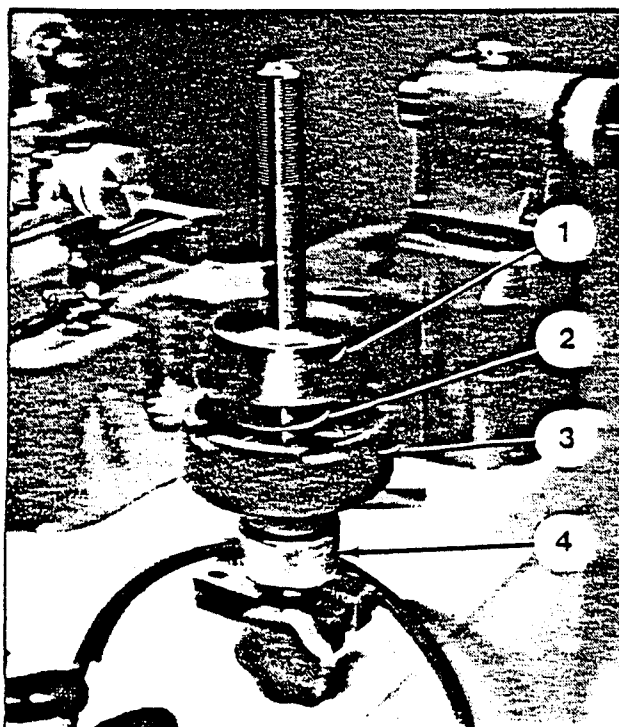

Figure 13. Cone and Spring Installed
5. Install proper size tapered cone, tapered side up onto arbor, Figure 13.